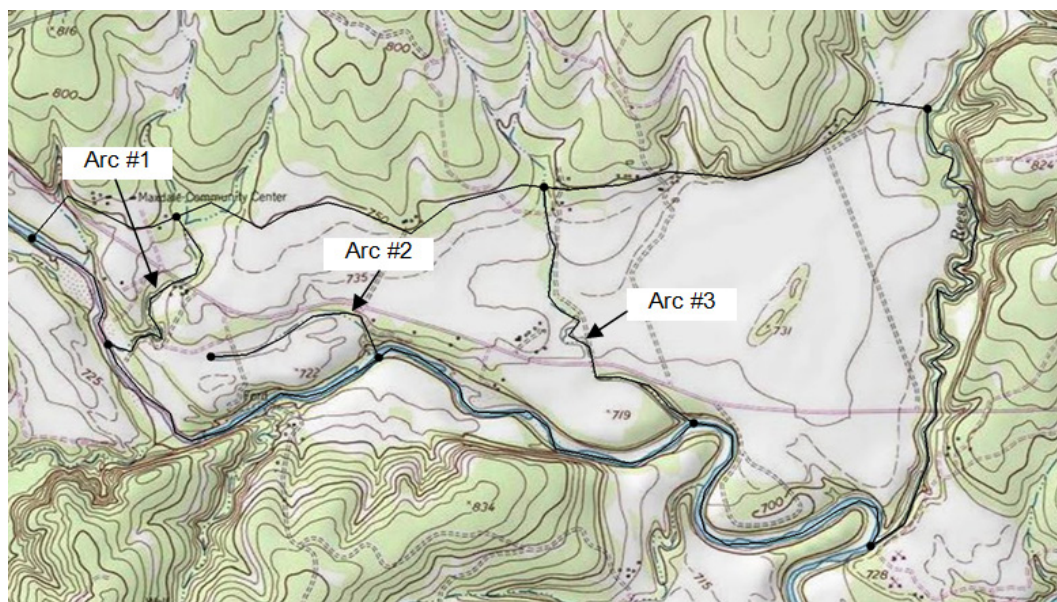

Figure 4. The drain arcs.
16. Create the arc labeled as arc #1 in Figure 4. Start by clicking on the bottom arc, create the arc by clicking points along the creek bed, and end the arc by double clicking on the top arc.
17. Create the arcs labeled arc #2 and arc #3 in Figure 4 the same way you made arc #1.